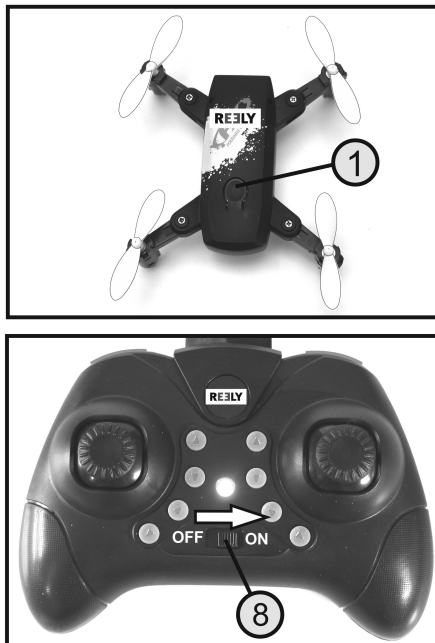

Figure 9
To remove the rechargeable battery, press on the grooved surface (2) with your thumb and push the rechargeable battery backwards. At the same time, make sure that you do not press the on/off switch of the quadcopter with your forefinger (see Figure 9, no. 1).